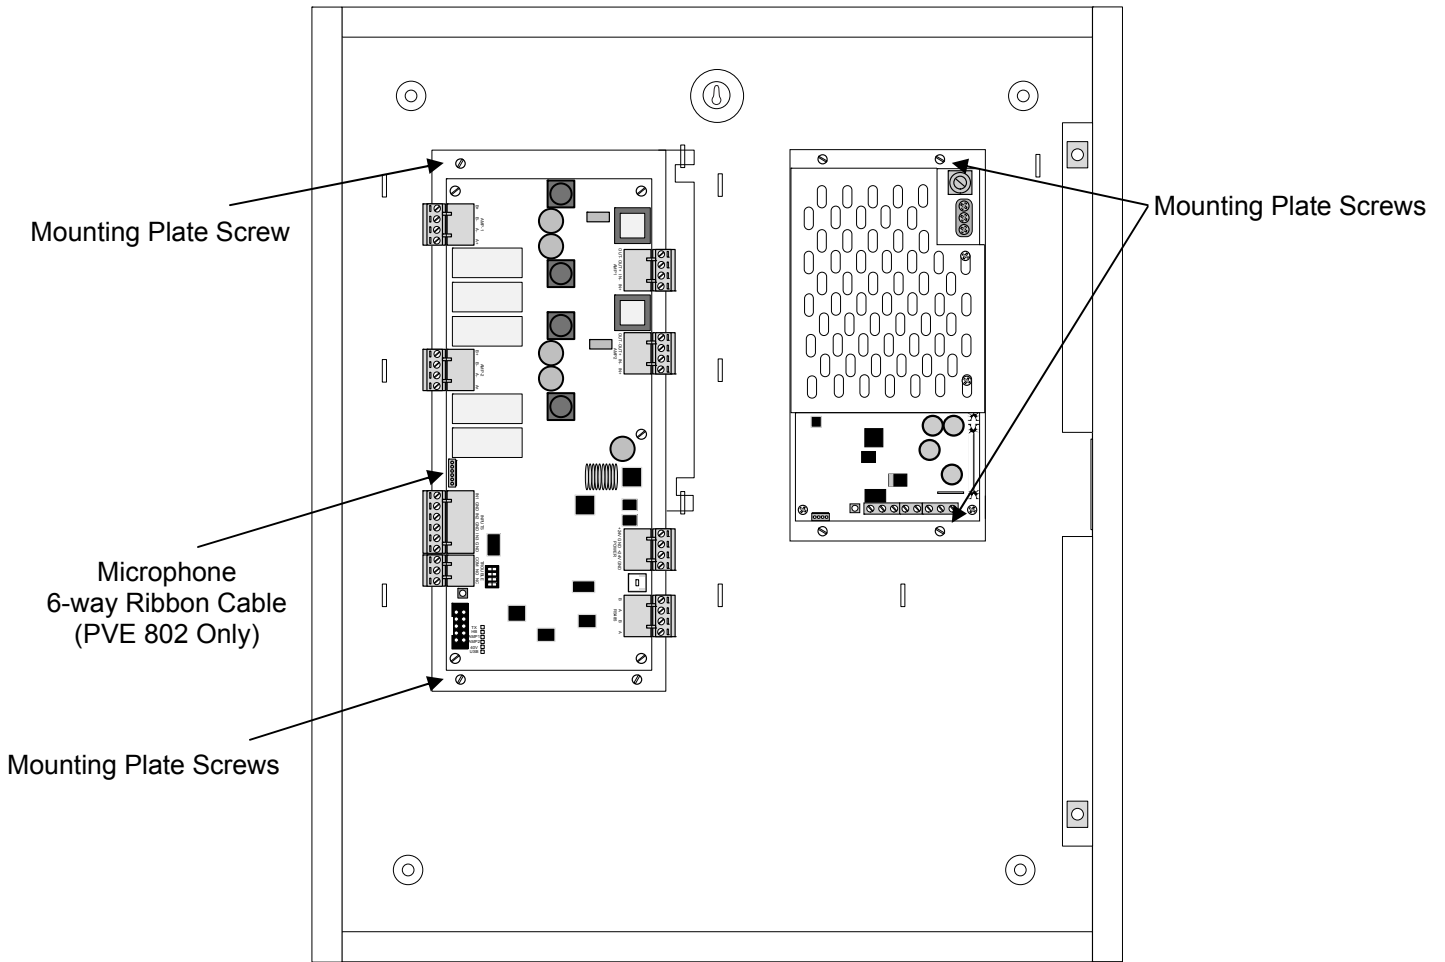

Figure 3 – PVE 802 and VAB 802, Module Removal
1. Amplifier Module: Unplug terminal blocks containing internal wiring (PVE 802 only, unplug the 6-way ribbon cable running from the amplifier [PL2] to the microphone), remove the three (3) screws holding the amplifier mounting plate to the enclosure, slide amplifier mounting plate out from under the back box mounting tabs located on the right side of the amplifier mounting plate (see figure 3).
2. Power Supply Charger: Remove the four (4) screws holding the power supply charger to the enclosure (see figure 3).